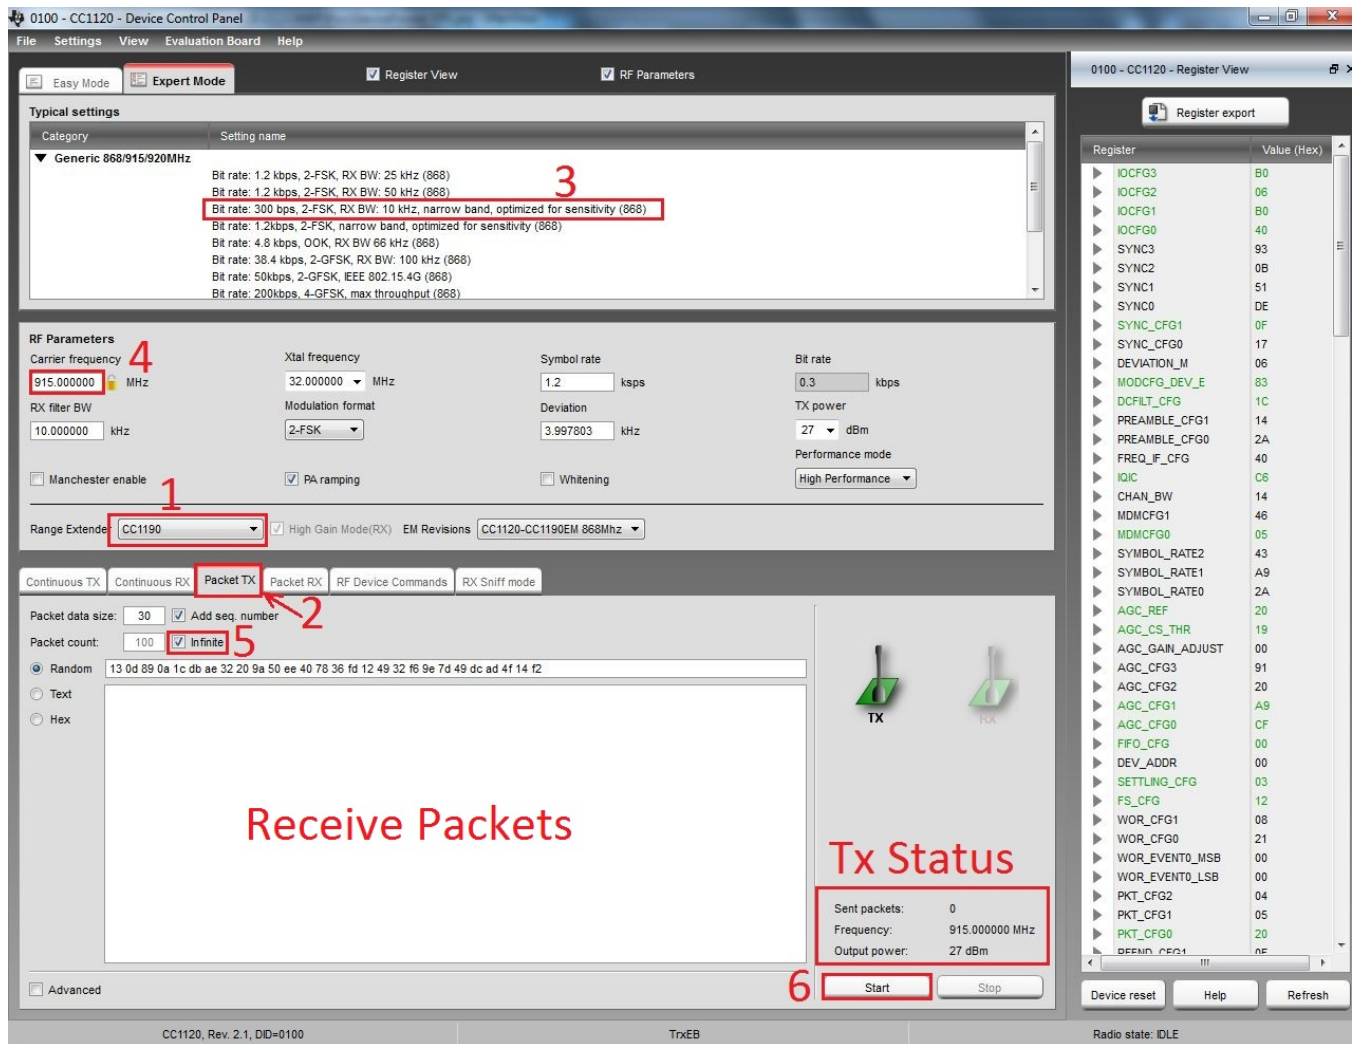

Figure 14. Device Control Panel Window –SmartRF Studio
3. It opens up another window called “Device Control Panel”, which is shown in Figure 14.
4. Follow the steps 1 through 6 in the same order as shown in figure 14.